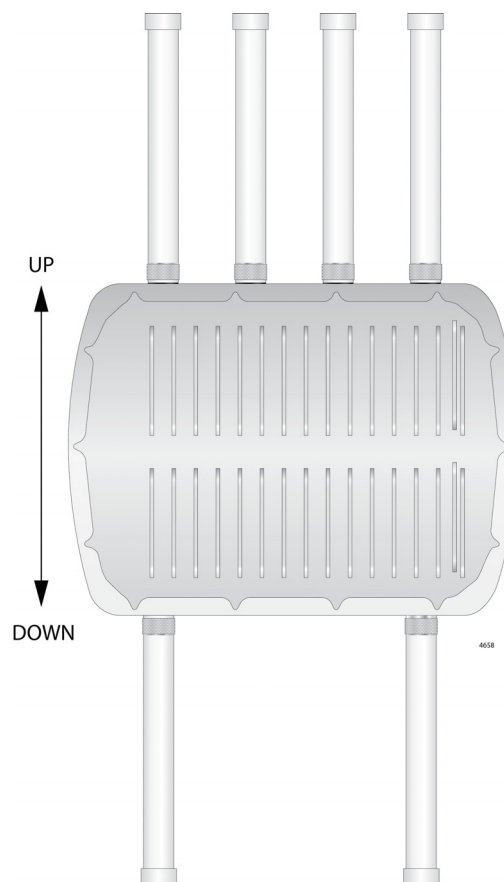

Figure 21. Orientation of the Access Point on a Wall
- ❑ The access point must be installed with the front panel down as shown in Figure 21.